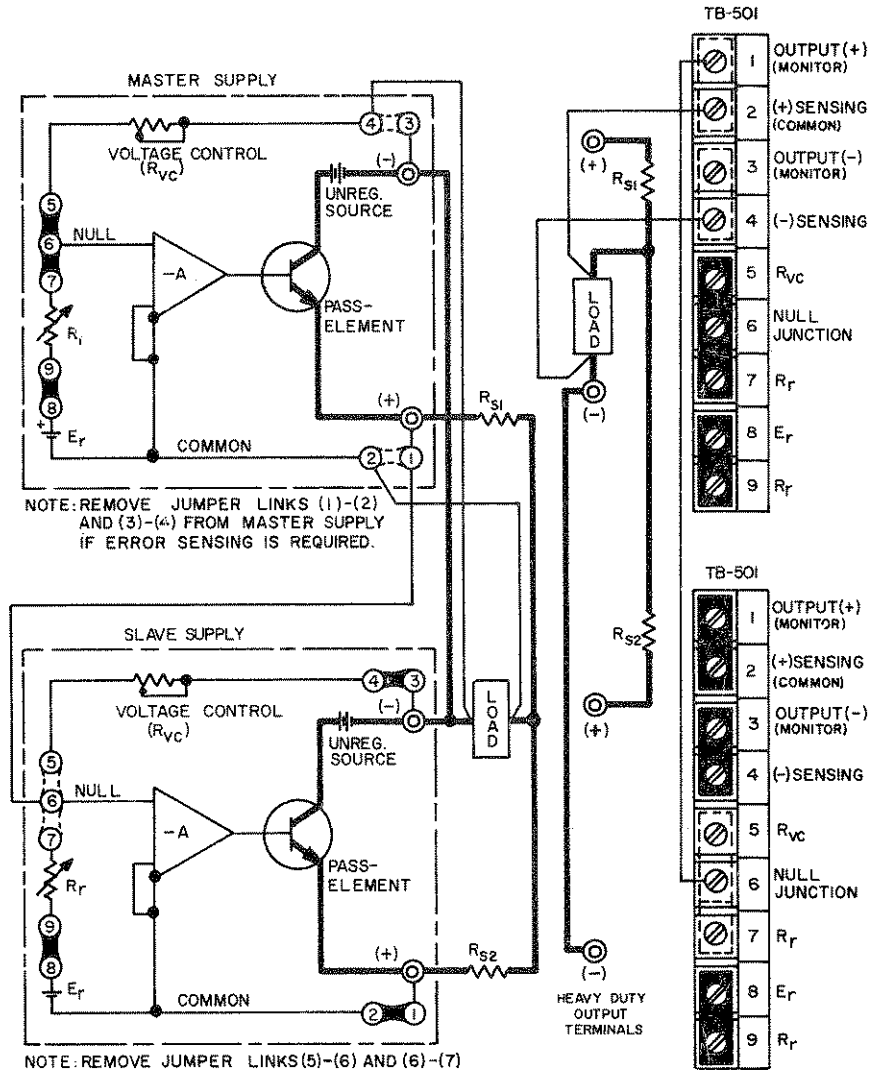

FIG. 3-14 MASTER SLAVE PARALLEL CONNECTION OF KEPKO POWER SUPPLIES
- 3-45 **MASTER/SLAVE PARALLEL CONNECTION.** Two power supplies are shown in FIG. 3-14, although more can be paralleled, each unit requiring its own sampling resistor. The sampling resistors (R_{s1} , R_{s2} in FIG. 3-14) are of equal value and are selected such that the voltage drop across them (due to the output current), plus the voltage drop in the load connection leads does never exceed 0.5 volts. If the voltage drop across the load connecting leads alone is at least 0.1 volt, the sensing resistors can be deleted since the leads provide the necessary sample voltage. For equal current sharing, however, the lead *length* and *diameter* should be the same for both power supplies. Output control is exercised from the "Master" supply.
- 3-46 **PROCEDURE FOR "MASTER/SLAVE" PARALLEL OPERATION** (See FIG. 3-14)
- 2) Make all load and sensing connections as shown in FIG. 3-14. The error sensing connections may be deleted if the minor voltage drop across the load wires (which subtracts from the available compliance voltage) can be tolerated.